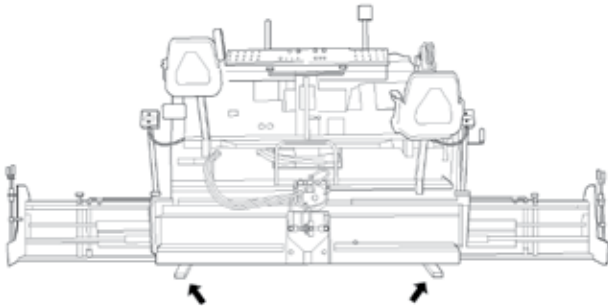

Figure 4-38. Starter Blocks
3. To set depth, place screed on starter blocks (Figure 4-38).